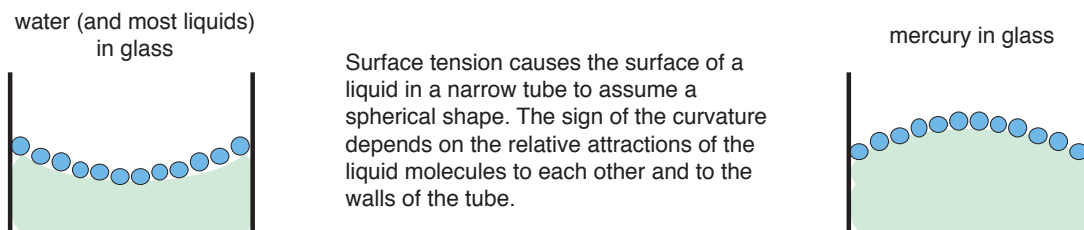

Figure 5: Formation of a meniscus in a glass tube.
**The meniscus.** If you look closely at the upper surface of a liquid in a graduated cylinder or other fairly narrow glass tube, you will notice that it is curved; this upper surface is known as the *meniscus*. This is just another manifestation of the tendency of a liquid to minimize its surface area; that is, of surface tension. A clean glass surface is highly attractive to most molecules, so most liquids display a concave meniscus in a glass tube (Fig. 5).